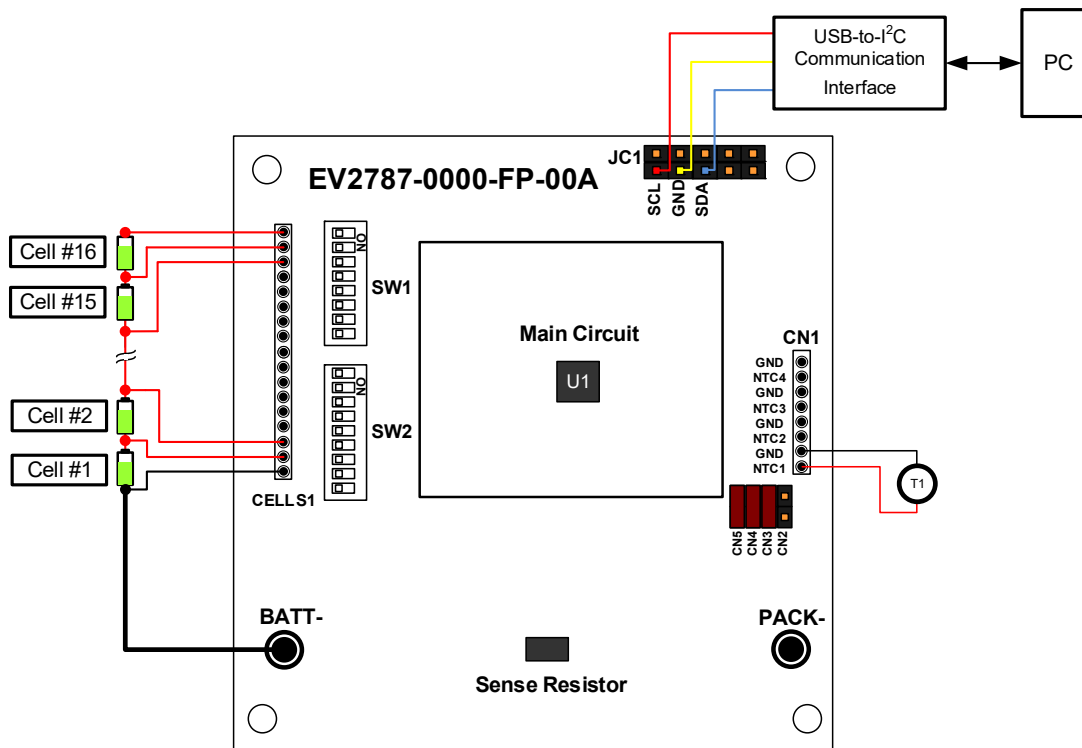
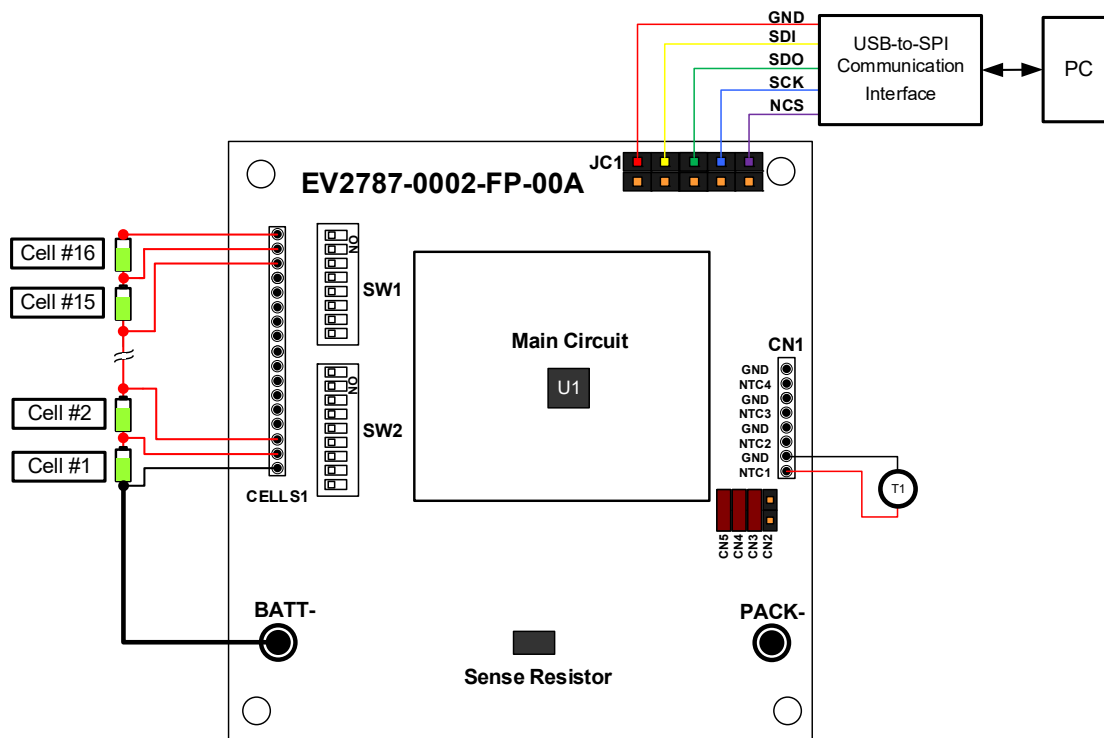

Figure 6: Test Set-Up for the MP2787DFP-0000 with a Battery Pack
Figure 7: Test Set-Up for the MP2787DFP-0002 with a Battery Pack
- The open-wire detection and cell-balancing functions cannot be tested using the cell simulator shunt. To evaluate these features, use a real battery pack. Figure 6 and Figure 7 on page 7 show the MP2787 test set-up with a battery pack for the EV2787-0000-FP-00A and EV2787-0002-FP-00A, respectively.